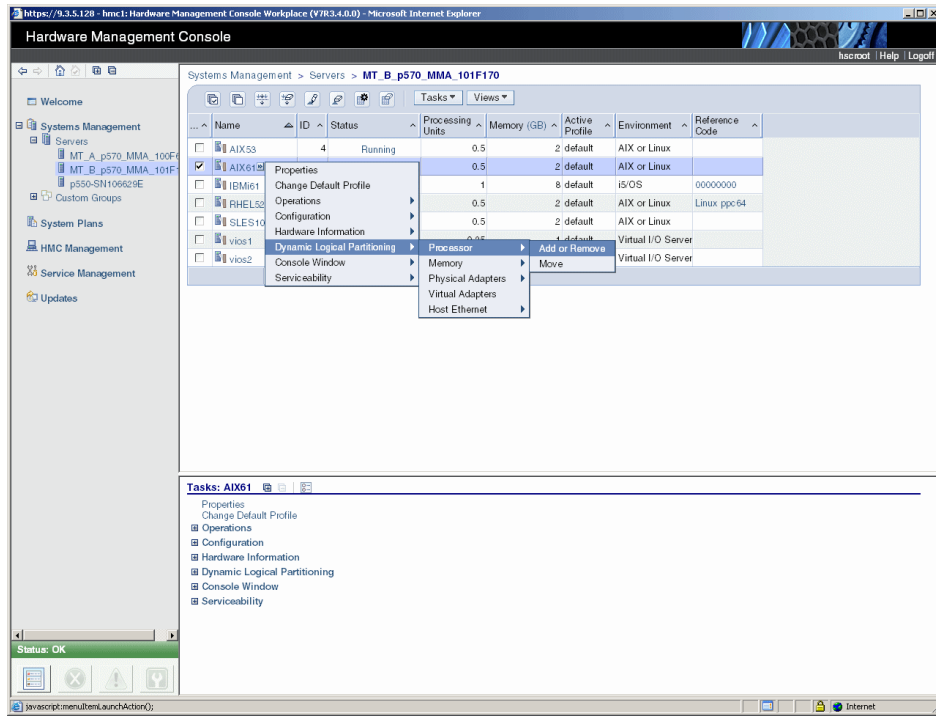

Figure 6-6 Add or remove processor operation
1. Select the logical partition where you want to initiate a dynamic LPAR operation, then select **Dynamic Logical Partitioning** → **Processor** → **Add or Remove**, as shown in Figure 6-6.